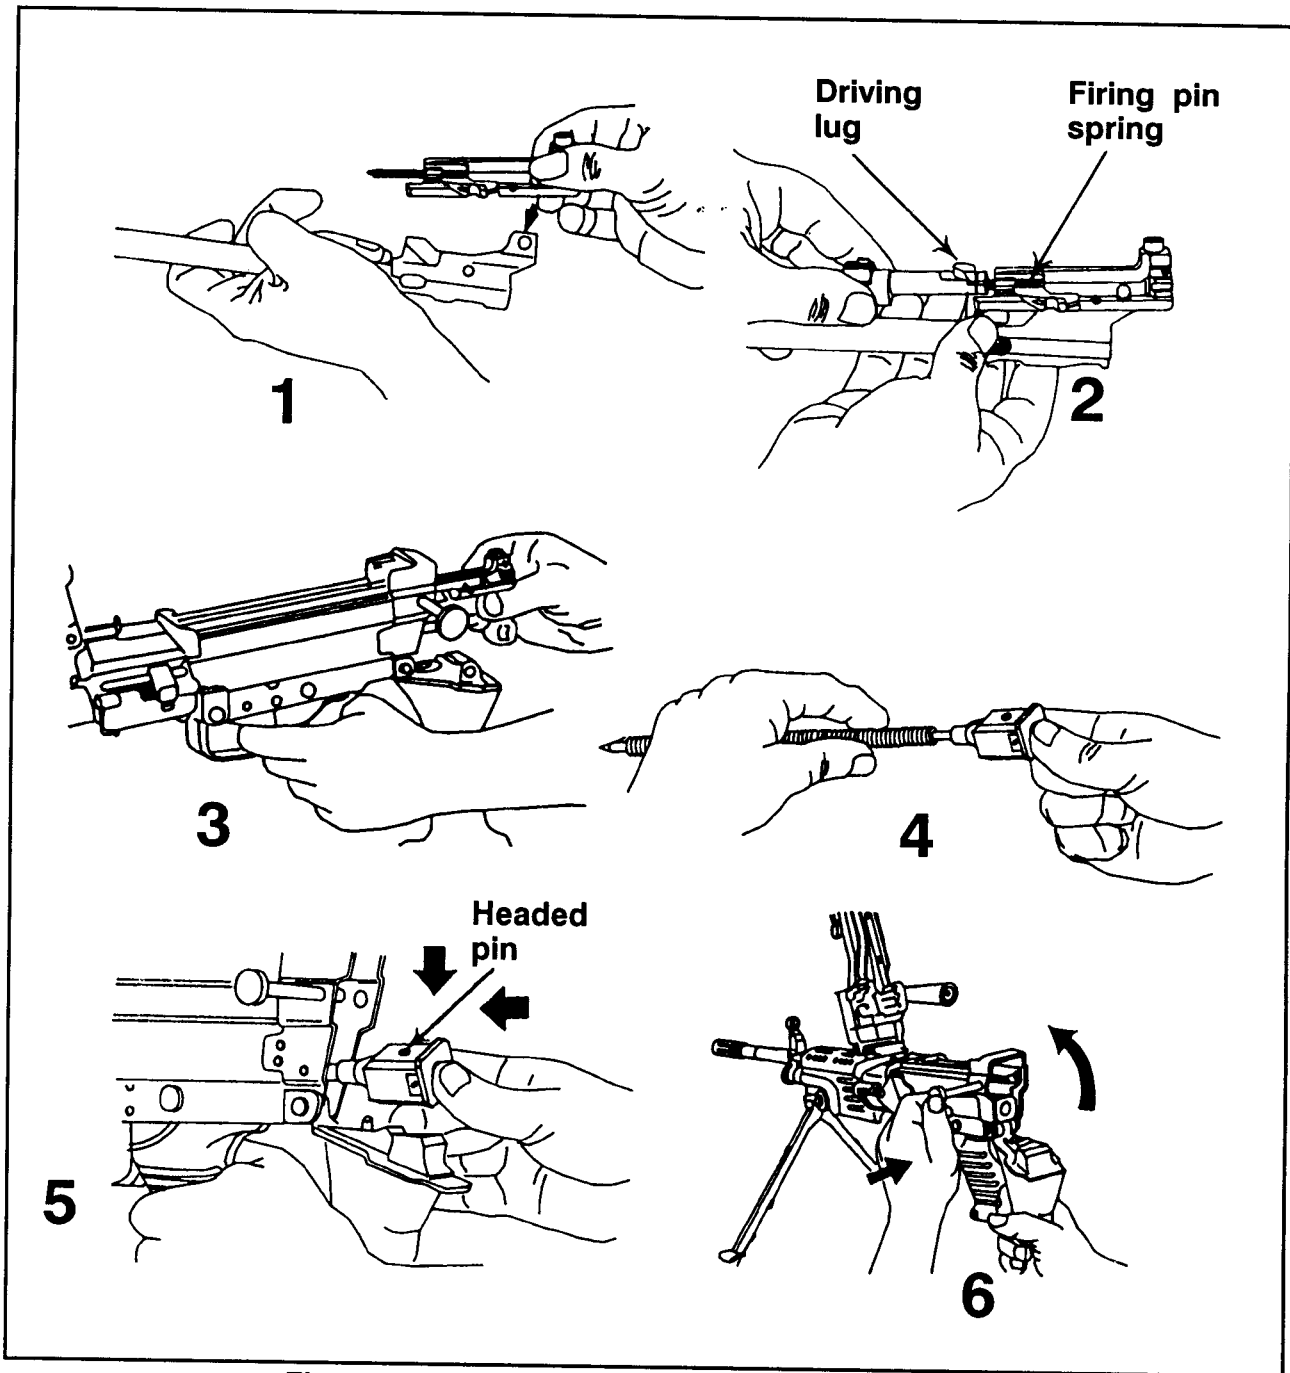

Figure 2-22. Replacing the operating rod group.
g. Replacing the Operating Rod Group. Hold the piston in one hand with the face of the piston facing outward and the sear notches downward. With the other hand, place the slide assembly onto the rear of the piston with the firing pin toward the front of the piston. (Check the slide assembly retaining pin to make sure it is out.) (Figure 2-22, page 2-20.)
(1) Push the slide assembly retaining pin to the right. This locks the piston assembly and the slide assembly together.
(2) Put the firing pin spring on the firing pin of the slide assembly. Place the bolt on the slide assembly, aligning the driving lug of the bolt with the slot of the slide assembly. Apply pressure to the face of the bolt to compress the firing pin spring. Then, rotate the bolt to hook the driving lug into the slide assembly. Open the cover assembly on the receiver. Insert the face of the piston into the receiver, aligning the bolt lugs onto the receiver rails. Pull the trigger and push the moving parts forward until the bolt is seated into the chamber.
(3) Place the operating rod tip into the operating rod spring. Then, insert the free end of the operating rod and spring into the rear of the piston. Depress the rear of the operating rod assembly until the two lugs on the buffer are positioned in the receiver grooves.
(4) Pivot the buttstock upward into position and push the upper retaining pin to the right, locking the buttstock to the receiver.